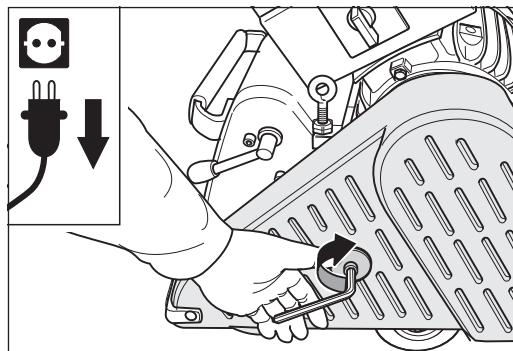

Fig. 4 Close the belt guard.
- 5 **Close the belt guard (Fig. 4)!**